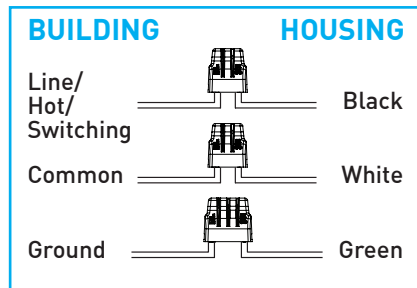

Fig.18
Feed structured building wires through knockout, secure to corresponding connector "Fig.18" and tighten strain relief.
**Quick connectors** provided for line / mains voltage connection: black (hot), white (common) and green (ground) "Fig.18".